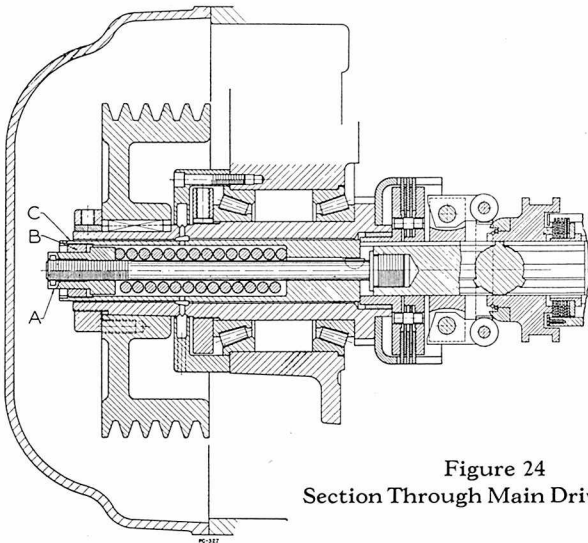

Figure 24
**Adjusting the Driving Clutch.** The clutch for these machines is self-compensating within certain limits, thereby eliminating the necessity for adjustment until the wear exceeds these limits. Nut "B", (Fig. 24), regulates the allowance for the self-compensating effect, or wear; which is about .020" when the clutch is new or after it is adjusted.